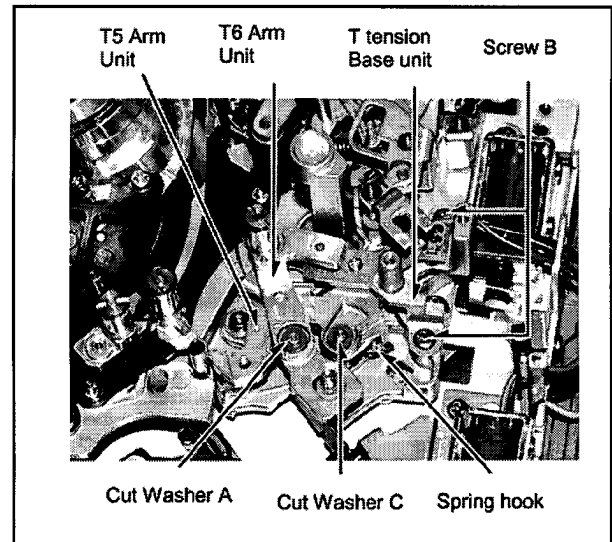

Fig.4-16
1. Remove the Cut Washer A and a Washer to remove the T6 Arm Unit. (Fig.4-16)
3. Unscrew the 2 screws B, and the T Tension Base Unit. (Fig.4-16)
4. Remove the Cut Washer C and a Washer to remove the T5 Arm Unit. (Fig.4-16)